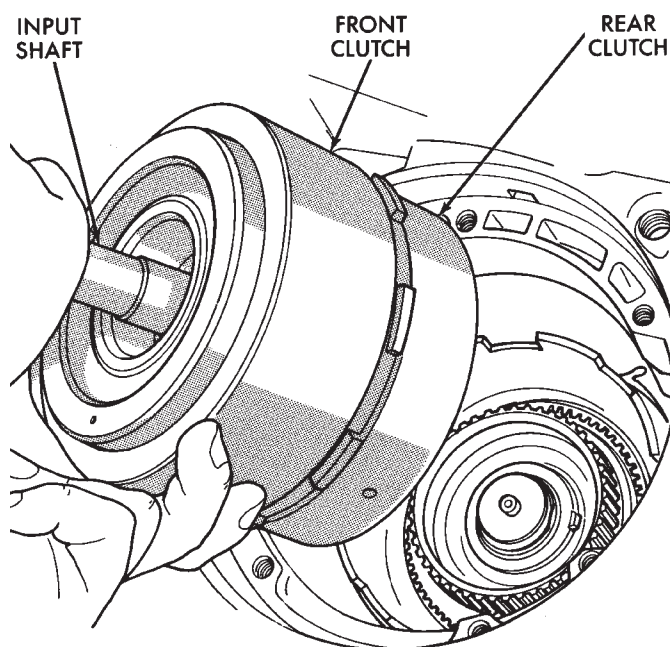

Fig. 139 Removing Front/Rear Clutch Assemblies
(28) Slide front band rearward and onto driving shell. Band will not be removed until after front/rear clutch removal.
(29) Remove front and rear clutch units as assembly. Grasp input shaft, hold clutch units together and remove them from case (Fig. 139).